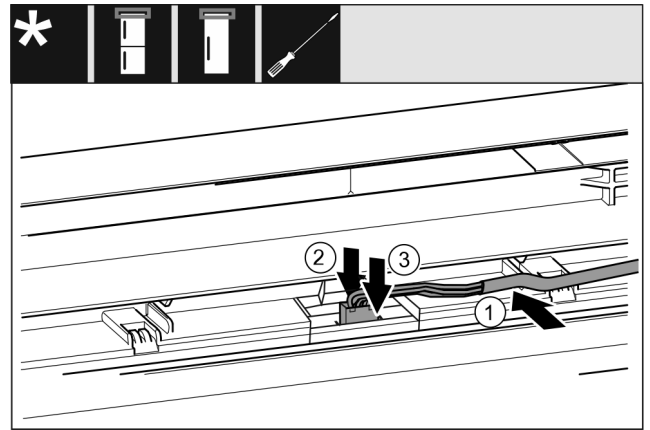

Fig. 42 Fridge/freezer combinations/freezers/cooling units
- ▶ Carefully insert the cable Fig. 42 (1) into the guide in the top door.
- ▶ Press the latching tab Fig. 42 (2) towards the back.
- ▶ Snap in the plug Fig. 42 (3).